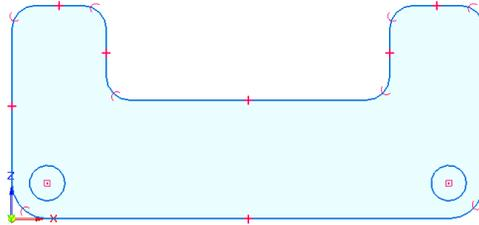

Figure 2-48 Final profile for Tutorial 1
7. Move the cursor over the center point of the lower right fillet and click when the concentric relationship handle is displayed. The final profile for Tutorial 1 is shown in Figure 2-48.